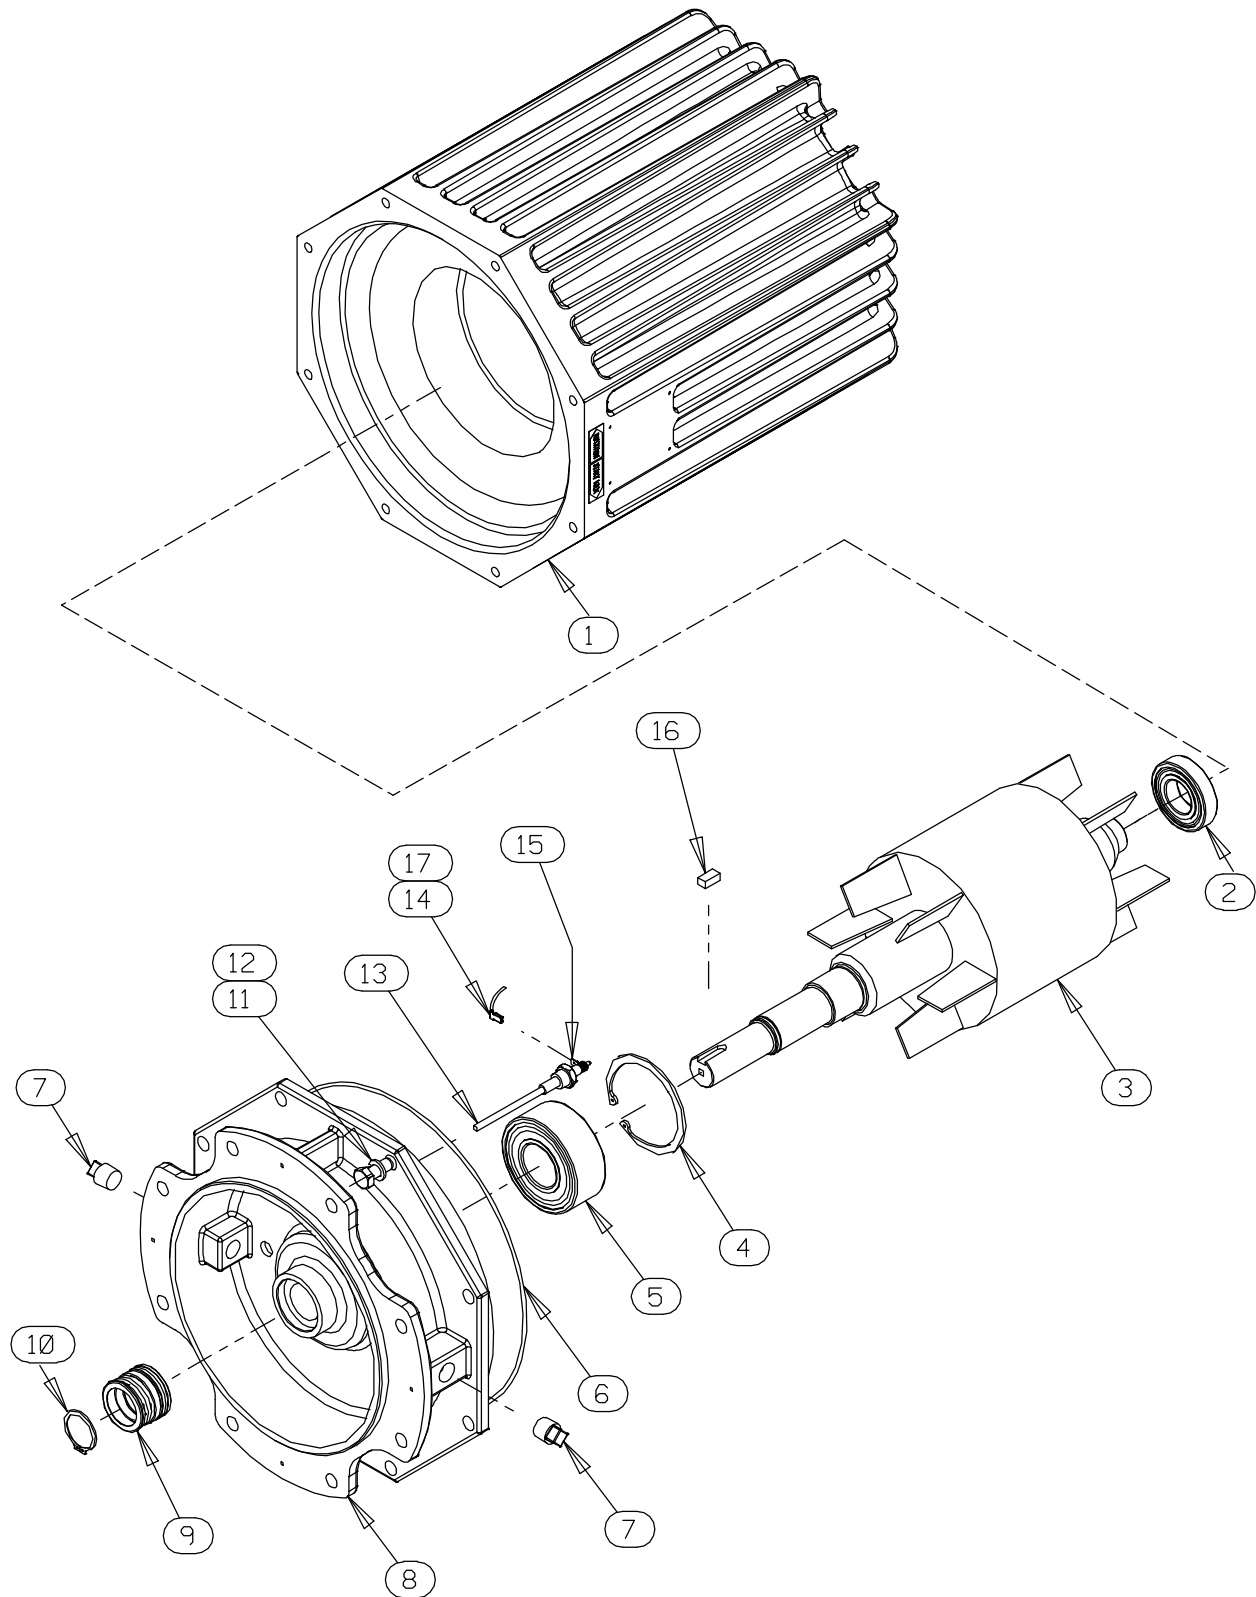

Figure E-2. 47111-824 and -825 Motor Assemblies
(Figure E-2)
To remove the impeller, use two thin-bladed screwdrivers positioned 180° apart to pry on the back of the impeller and “walk” the impeller off the shaft. Use increasingly larger screwdrivers (or wedges) as necessary. After the impeller comes free of the shaft, retain the impeller key (16, Figure E-2).
*An alternate method of removing the stationary element is to remove the screws (22) securing the seal plate (21) to the motor assembly (14). Pry the assembled seal plate and stationary element off the shoulder of the intermediate (8, Figure E-2). Remove the O-ring (10) and press the stationary element and seat out of the seal plate from the back side.*